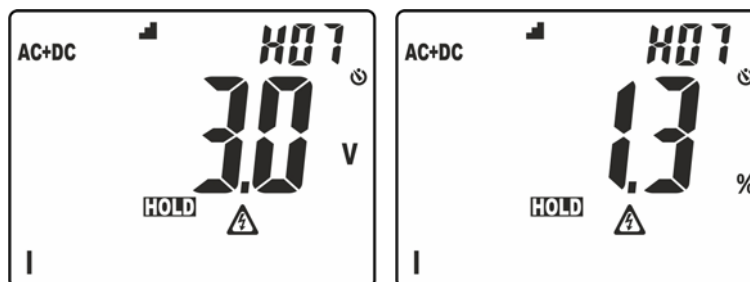

Fig. 4: Display of ordering of amplitude of harmonic analysis
- Long pressing of the key (at least 2s) in order to activate the **H₂O** (**H**igher **H**armonic **O**rding) ordering function of the amplitude of harmonics. In these conditions, function "HOLD" is automatically activated, symbol $\blacktriangle$ is shown on the display, the bargraph is disabled and the instrument shows the value of amplitude of all harmonics between the 2nd and the 25th, in **decreasing order** from the harmonic with the highest value, as shown in Fig. 4.
In the example in Fig. 4, the harmonic with the highest value corresponds to the 7th. Press key $\blacktriangle$ to observe the amplitude of the remaining harmonics and press key **H/H%/H** again to switch between display in absolute and percentage values. Turn the rotary switch to exit the function.